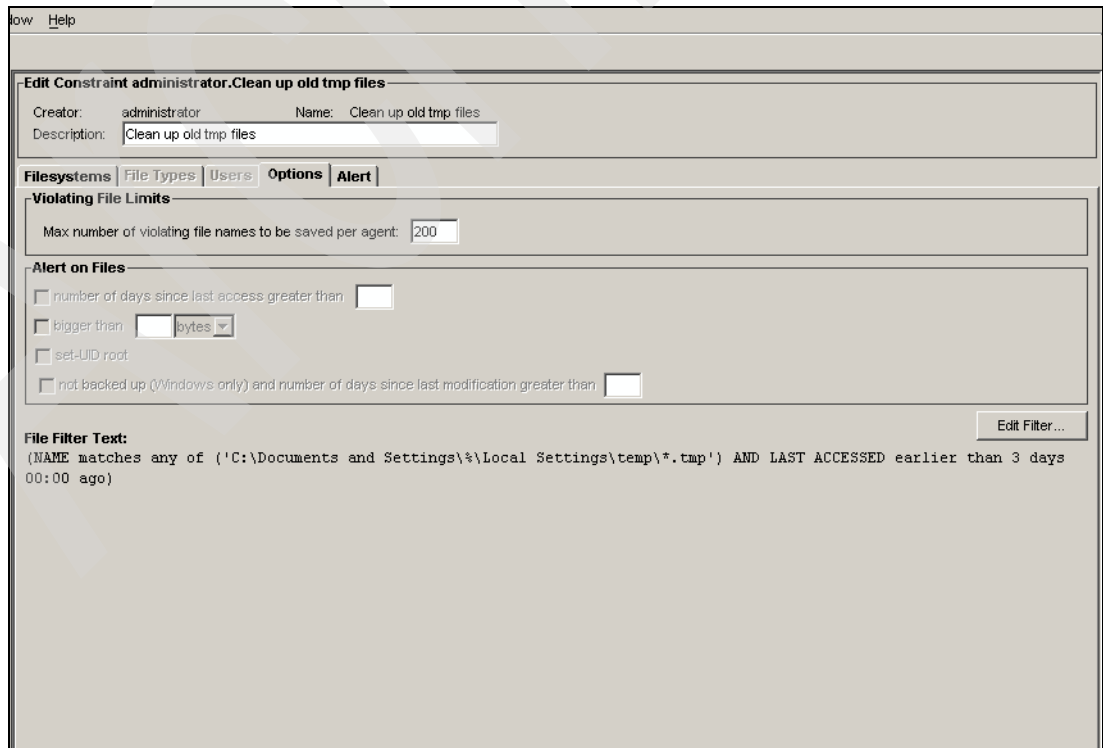
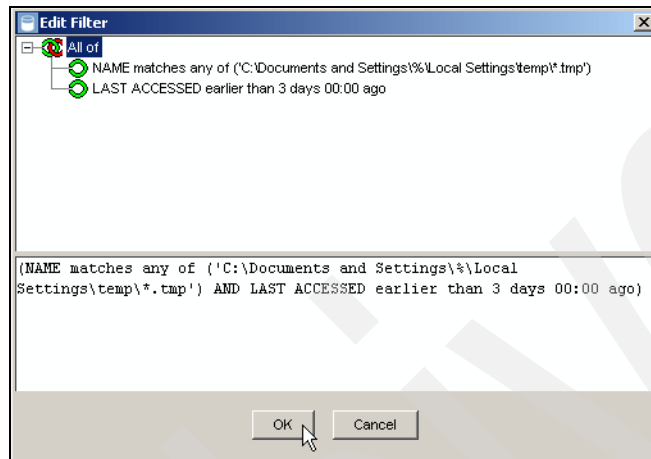

Figure 2-29 Create a file filter
Figure 2-30 Edit Filter
- Next, create a filter to identify the files that you want TPC to delete. Click **Edit Filter** on the upper right of the panel in Figure 2-29. An Edit Filter dialog box appears as in Figure 2-30 on page 36.
Note: Using the percent symbol (%) wildcard in a path statement means ANY. Therefore, the example in Figure 2-30 will search all of the Local Settings\temp in all users profile directories.